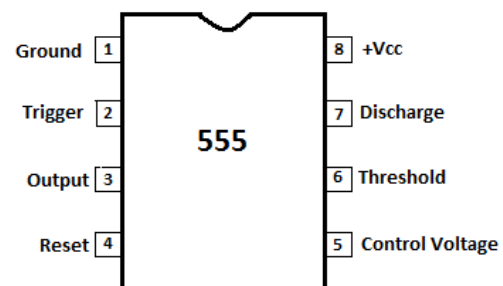

Figure 4: NE555N IC & Pin Configuration.
- **Timer 555** NE555 is a Timer that can be found in many electronic devices. It is a highly stable integrated circuit that can produce accurate time delays and oscillations as shown in Figure 4. The pinout and its functions are discussed below.